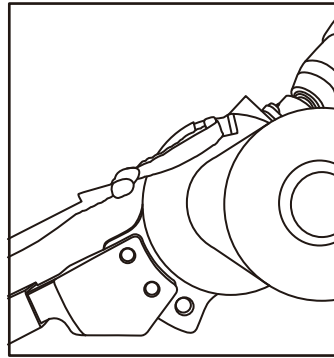
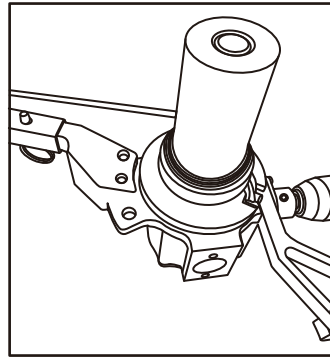

Fig 7
Fig 8
C. When pulling from the side, make a loop in the end of the polyline/ mule tape and attach the eye around the Polyline/Mule Tape Pin (10) on the Capstan (1) (Fig 7). This will allow the polyline/mule tape to continuously accumulate onto the Capstan (1) (Fig 8). Switch the 18-Volt drill into REVERSE and engage drill motor.